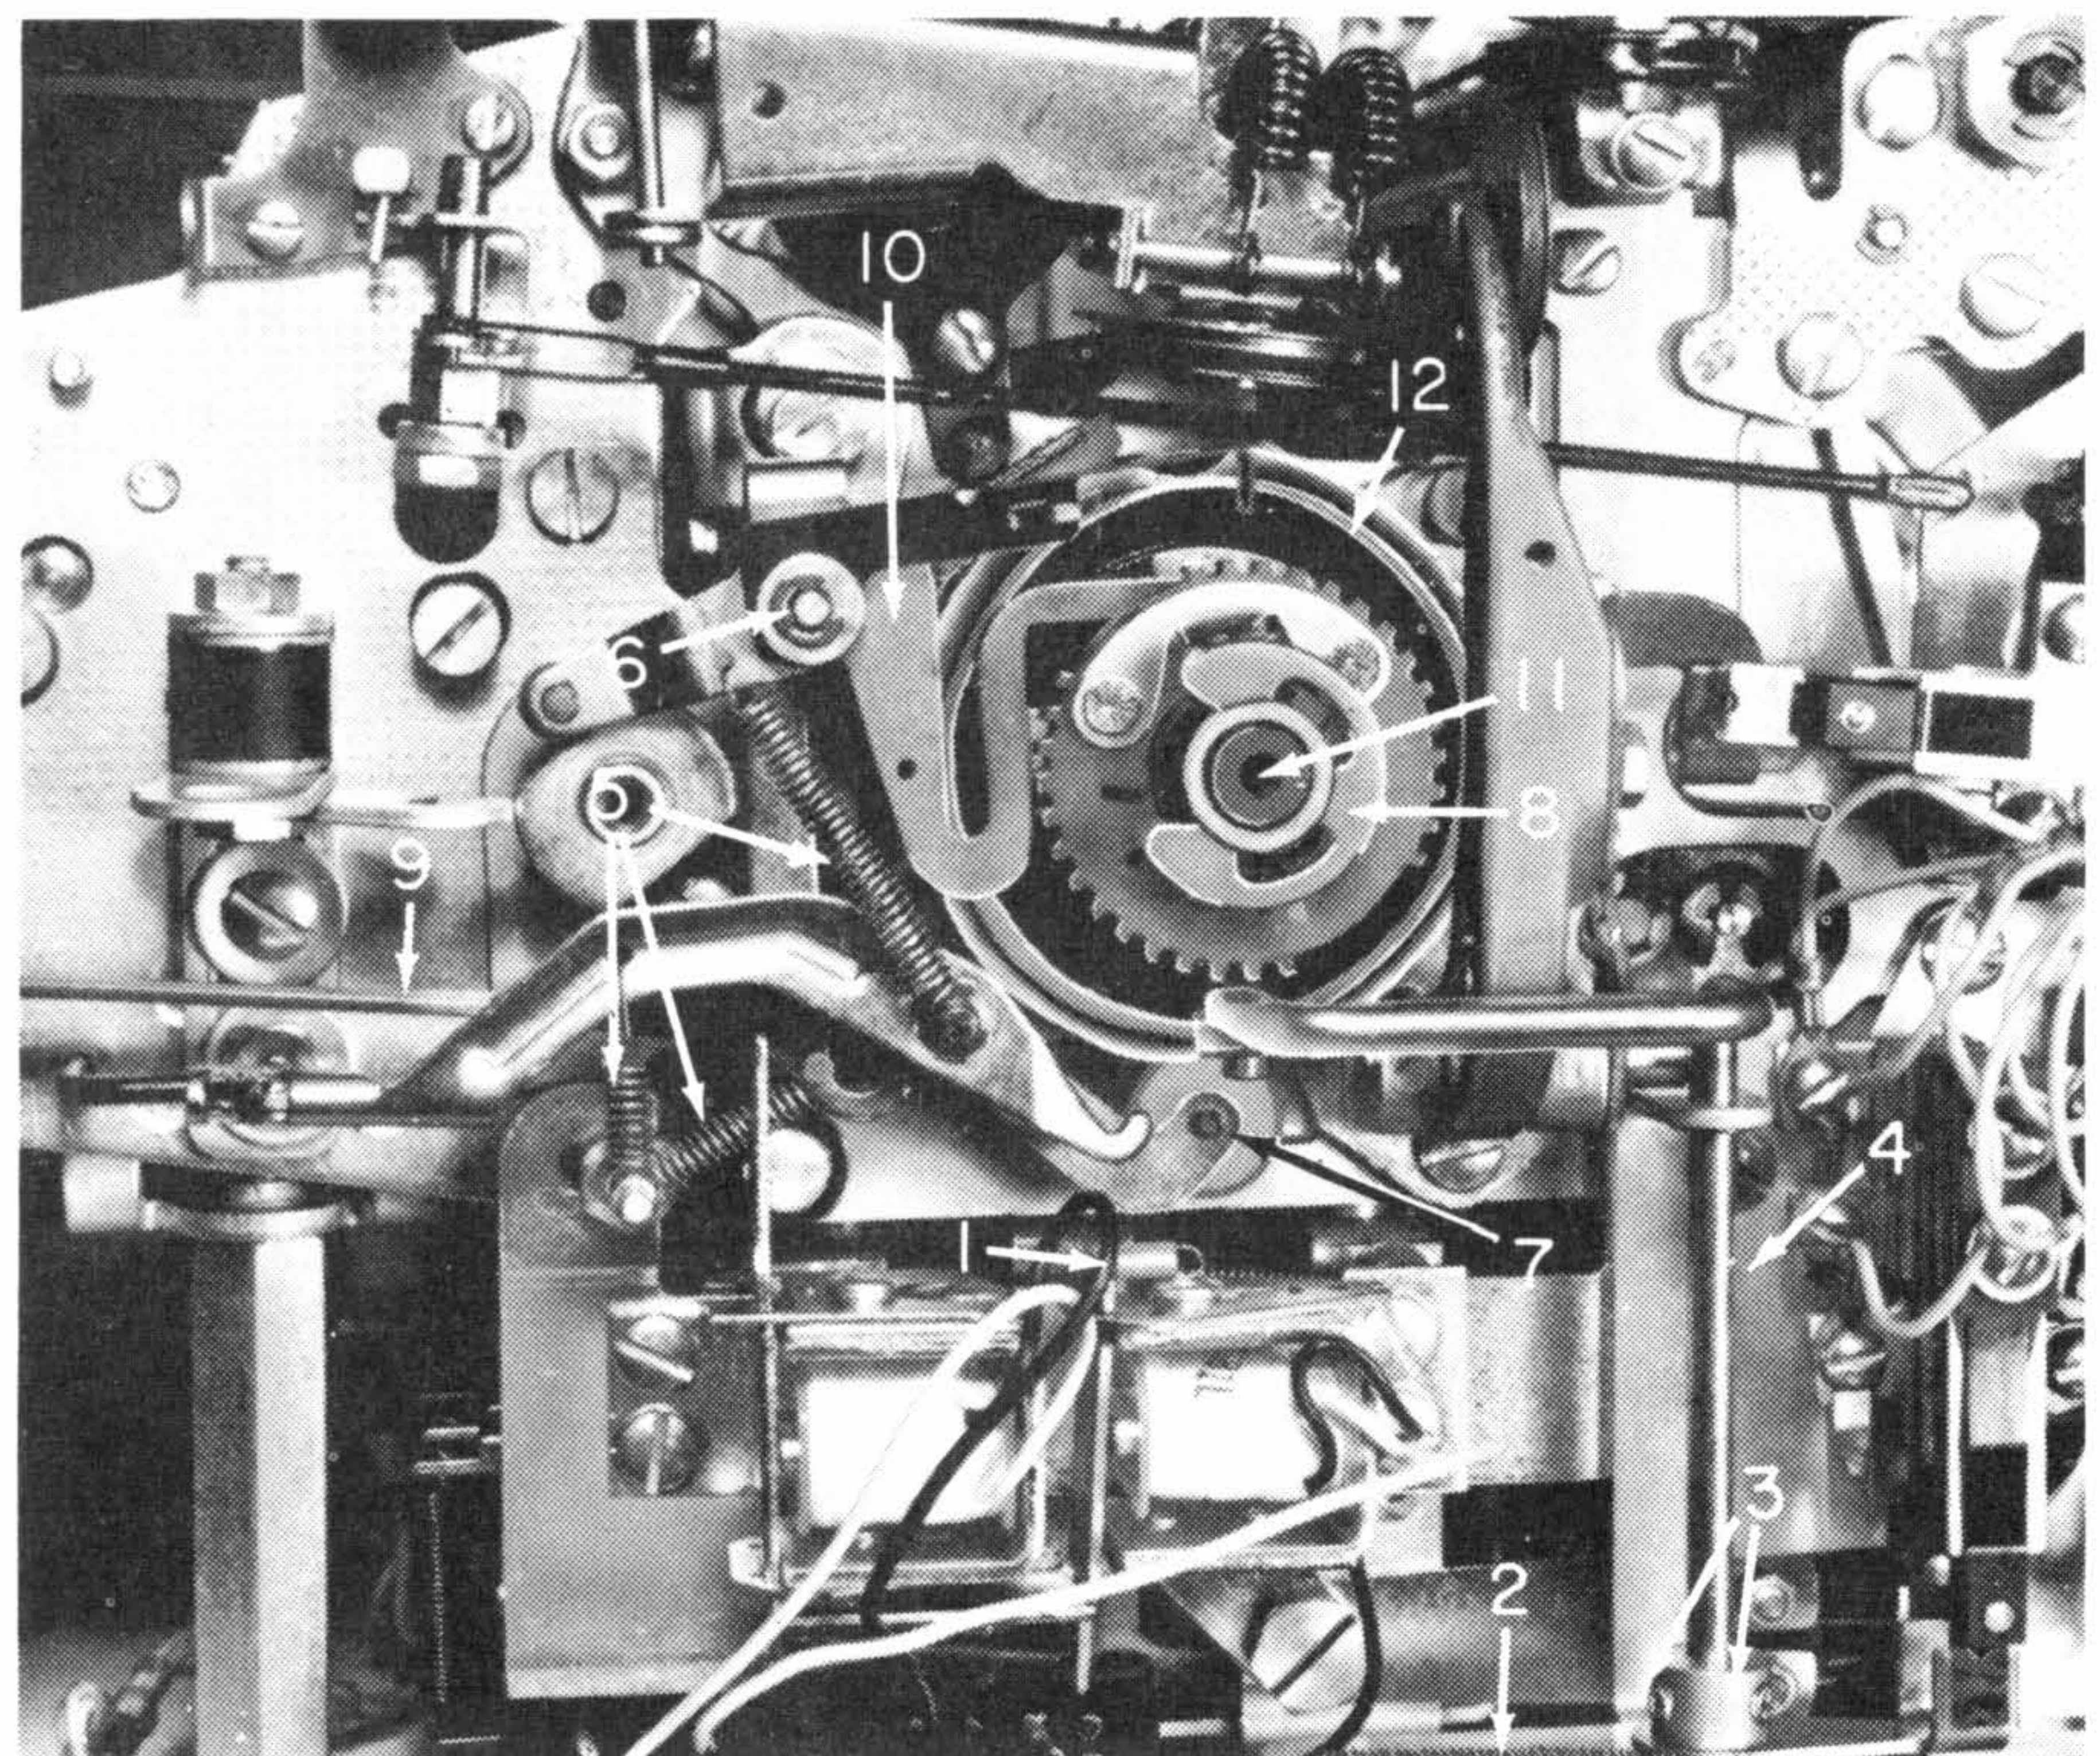

Figure 49. Shift Cam Removal
2. Remove the lower-case armature spring (#1, Figure 49).
3. Remove the cam-follower spring (#2, Figure 49).
4. Loosen the setscrews and remove the cam follower arm (#3, Figure 49).
5. Remove the shift-magnet assembly (#4, Figure 49).
6. Remove the three springs (#5, Figure 49).
7. Remove the interlock C-clip (#6, Figure 49).
8. Remove the detent (#7, Figure 49).
9. Remove the C-clip from the shaft and remove the ratchet (#8, Figure 49).
10. Disconnect the shift link (#9, Figure 49).
11. Remove the shift-release arm (#10, Figure 49).
13. Remove the shift arbor (#11, Figure 49). Note: Do not rotate the shaft backward.
14. Remove the shift cam (#12, Figure 49).